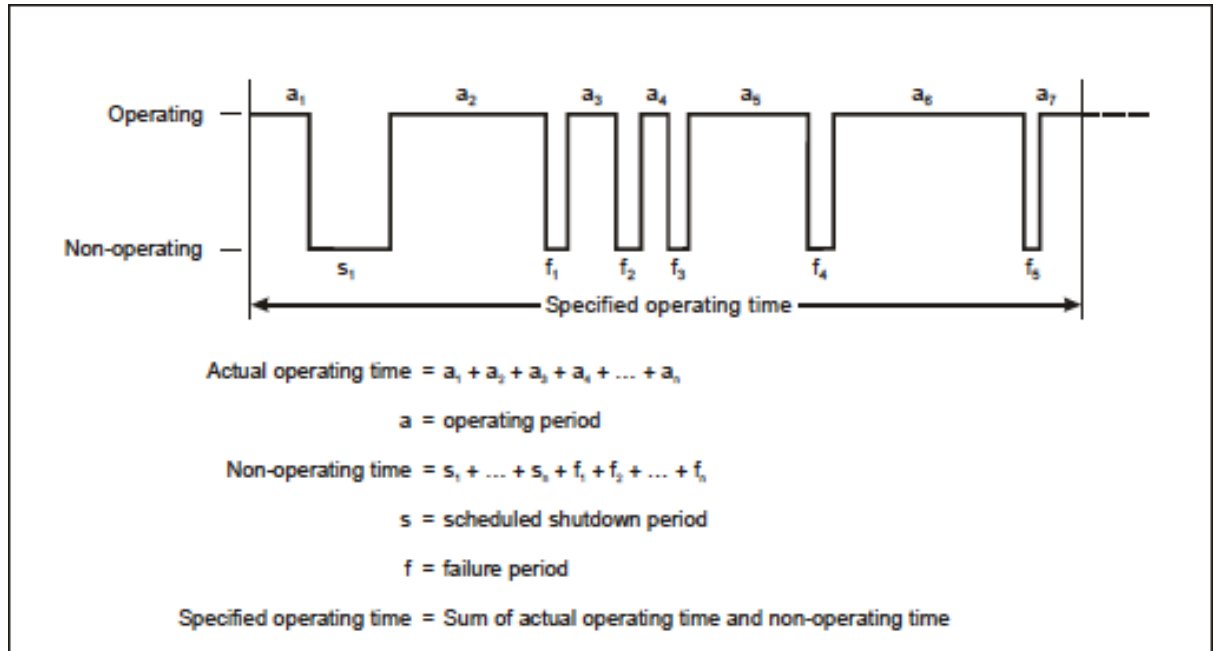

Figure 2. Evaluation of facility availability and reliability
The basic quantity and manner of reliability and availability measurement are indicated in Figure 2.
Referred to figure 2, the calculation of the mean time between failure (MTBF) and availability (A)